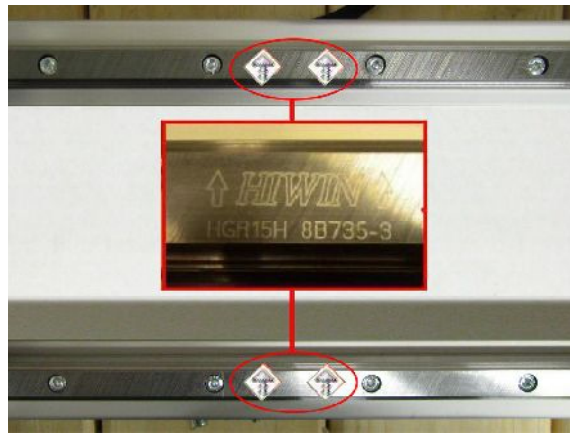

Figure 3.5: Orientation of the rails
- First, place the rails with the arrows indicating the same direction above the placed T nuts as is shown in figure 3.5. Fasten the supplied M4x20 bolts such that the bolthead is lower than the top of the rail, but not tightened; allowing the rail to move a little. If necessary center the rails on the profile.